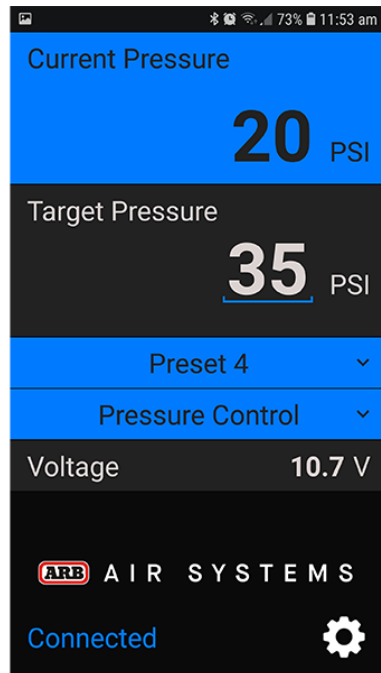

Figure 14
- 5-A) Download the “**ARB Compressor Connect**” App available for iOS or Android. Sample screen shots shown below in **Figures 14 and 15**. The settings shown are just examples and not recommendations. If you select the gear icon, bottom right, it will bring you to the settings screen. From here if you select the “i”, upper right, it will bring to an information screen that provides all the details of the app.